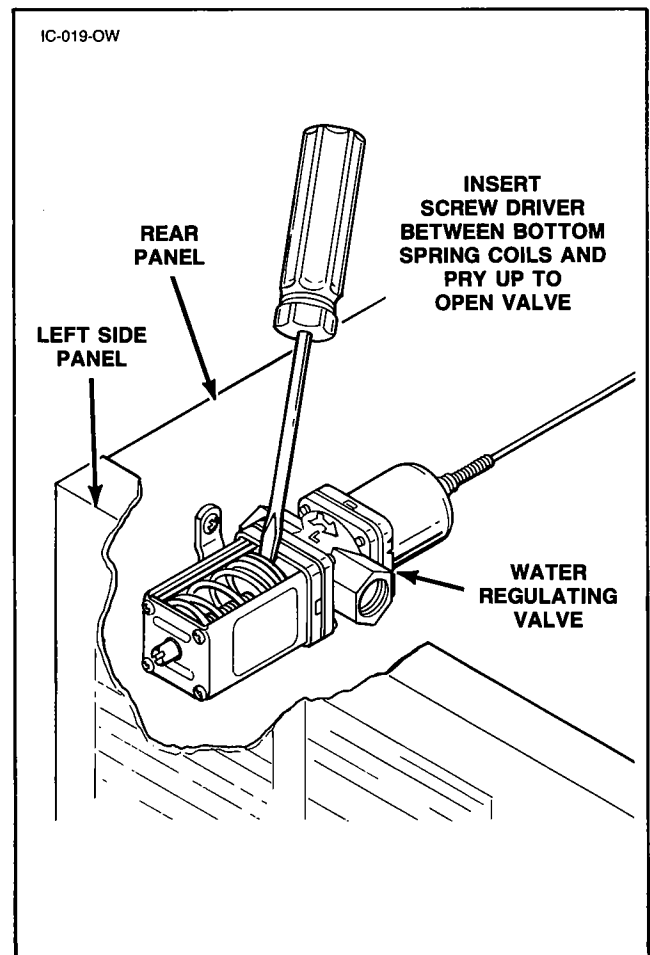

FIGURE 20 MANUALLY OPEN WATER REGULATING VALVE
7. Water-cooled ice machines: pry open water regulating valve by inserting large standard screwdriver between bottom spring coils of valve. Pry spring upward to open valve, Figure 20. Hold valve open and blow compressed air through condenser until no water remains.